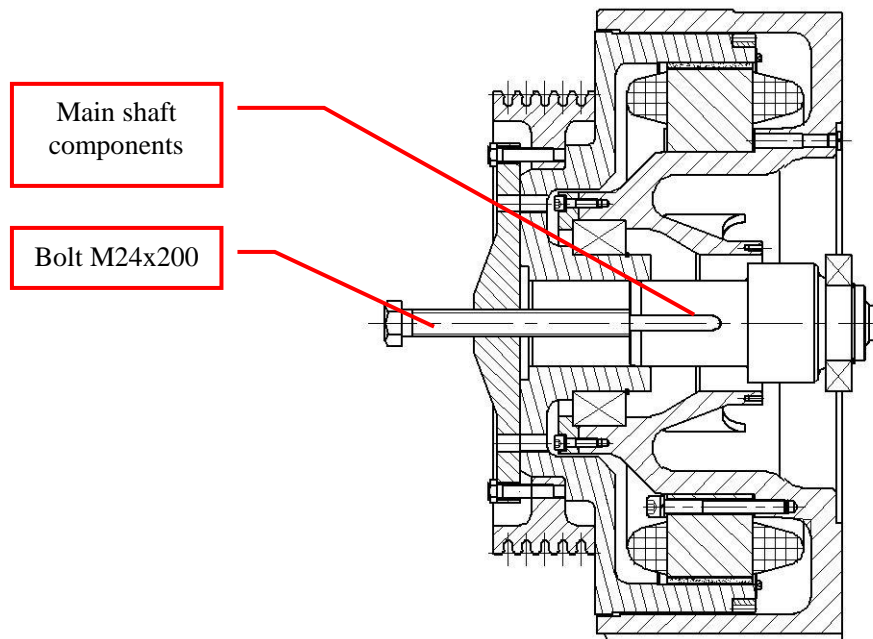

Figure 47: Jack out main shaft components
6. Tighten the bolt M24x200 slowly to push out the main shaft components. See Figure 47.